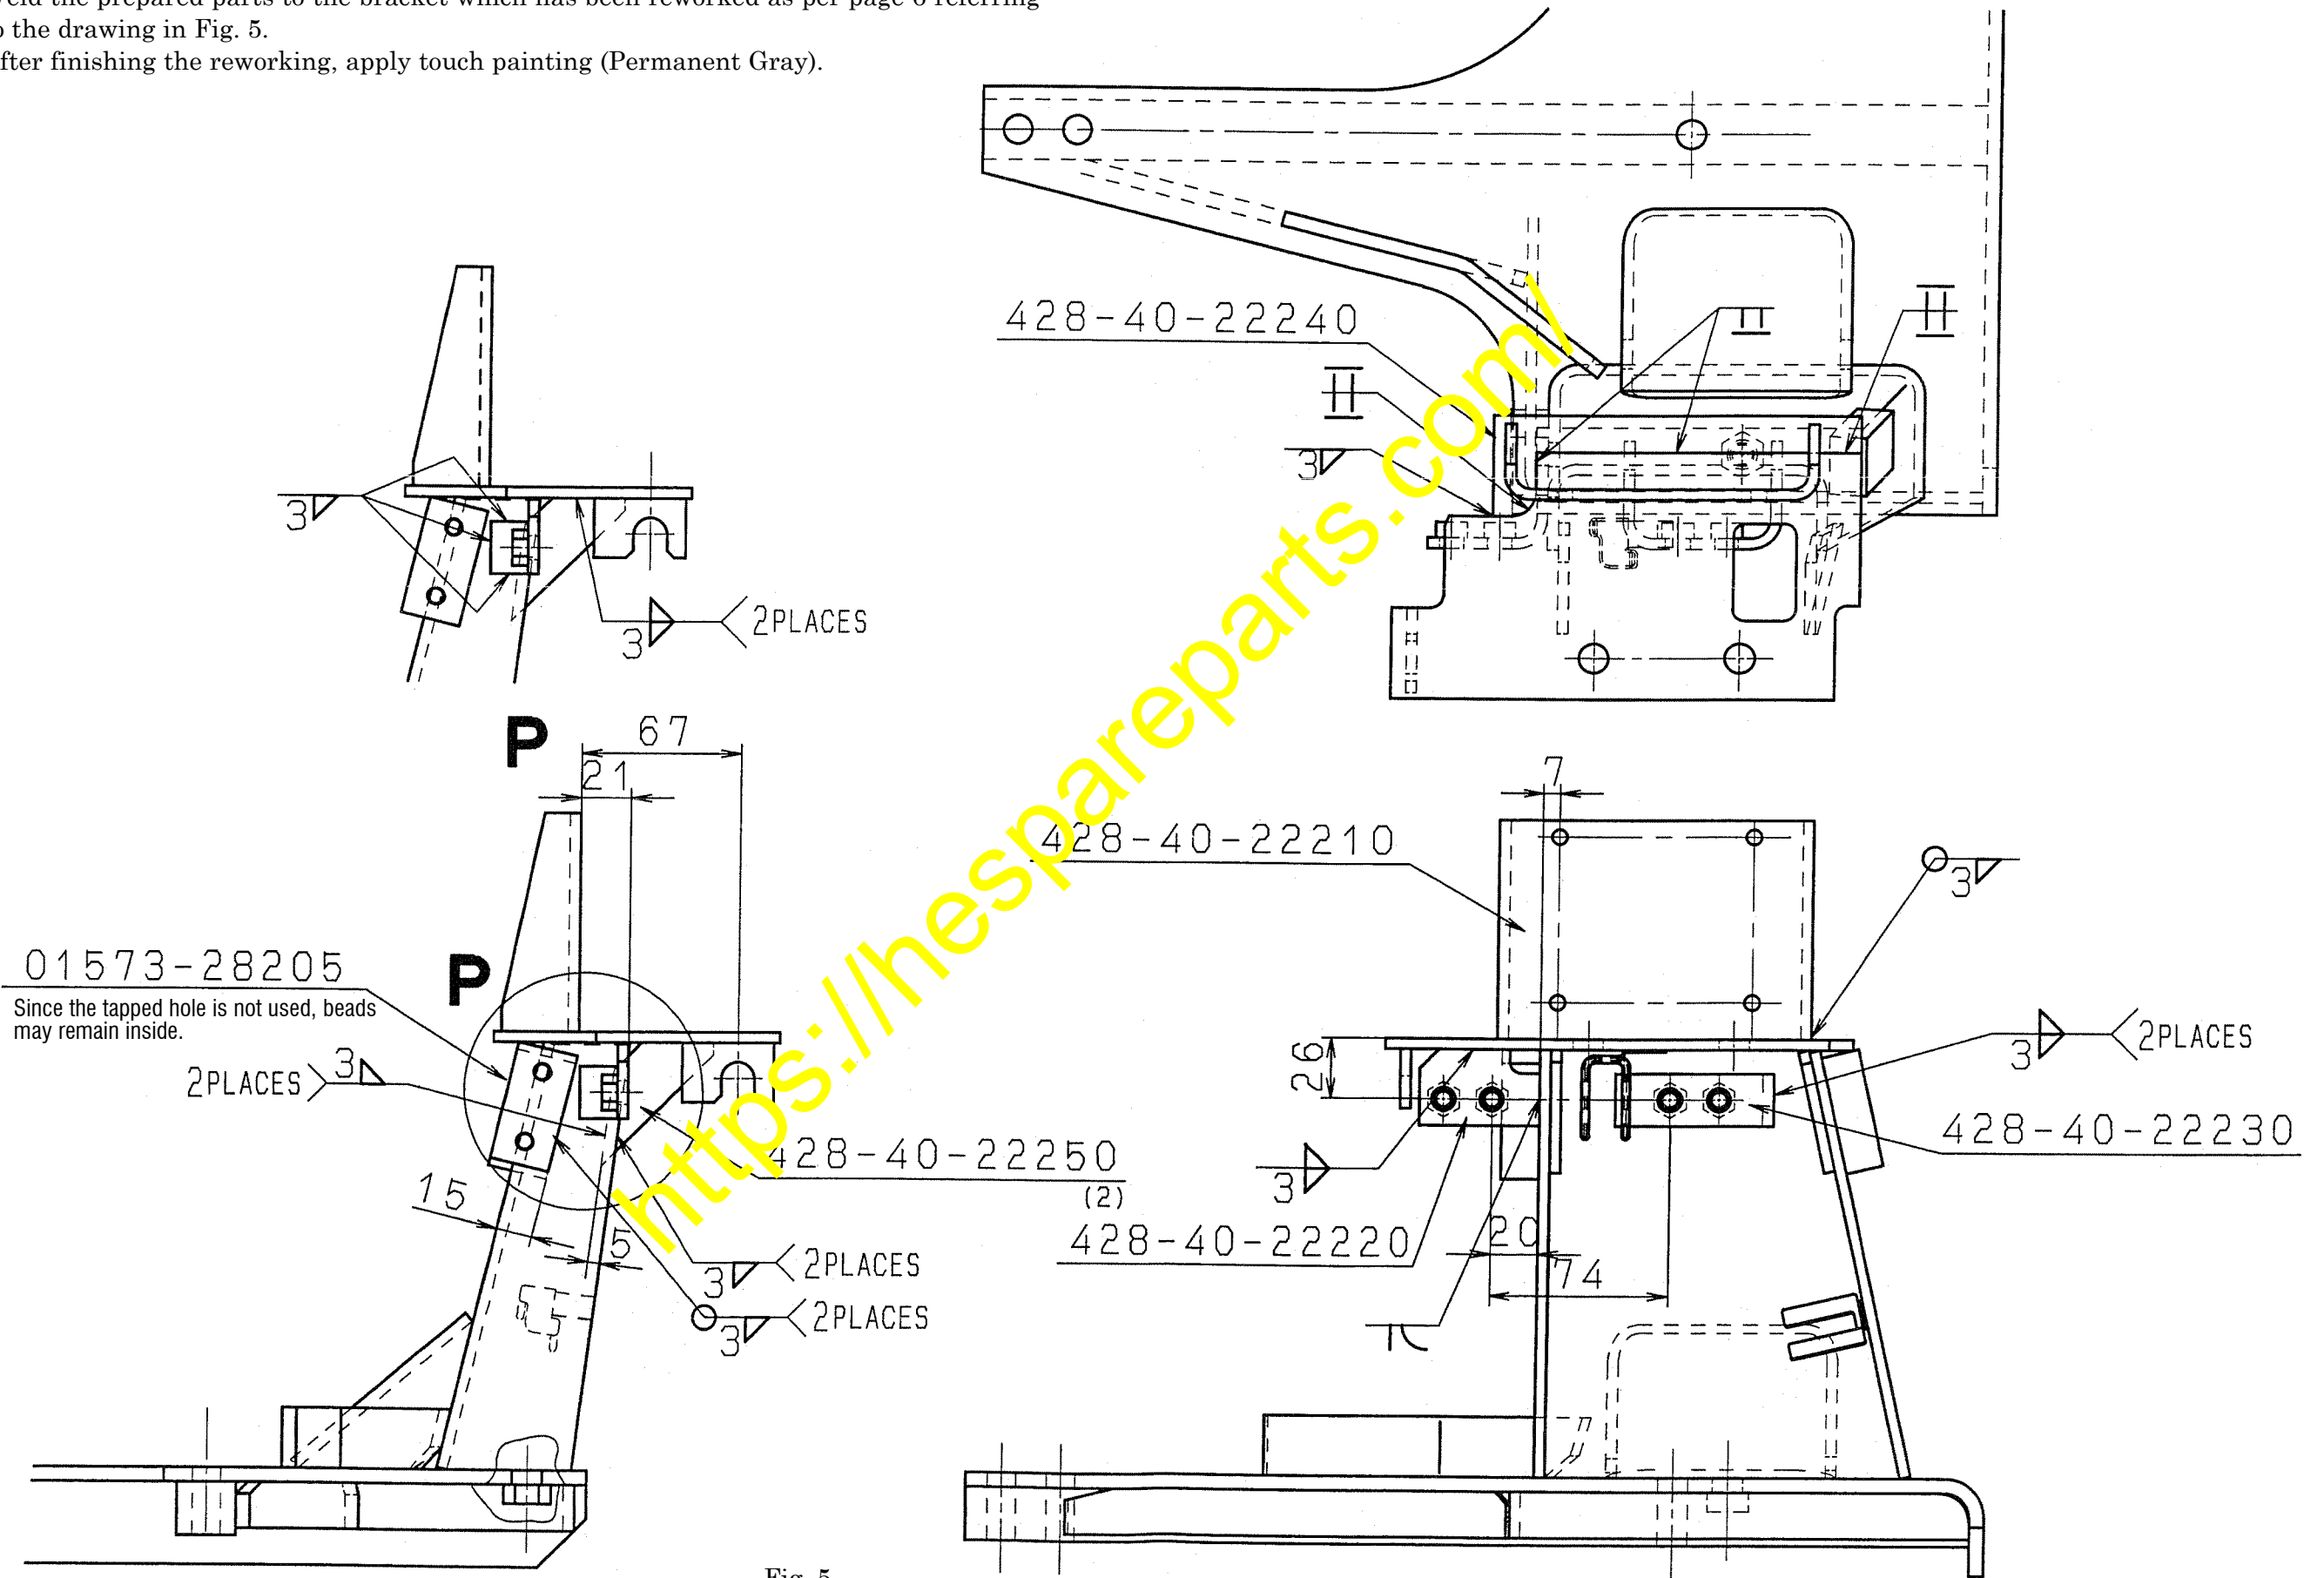

Fig. 5
- (1) Weld the prepared parts to the bracket which has been reworked as per page 6 referring to the drawing in Fig. 5.
- (2) After finishing the reworking, apply touch painting (Permanent Gray).